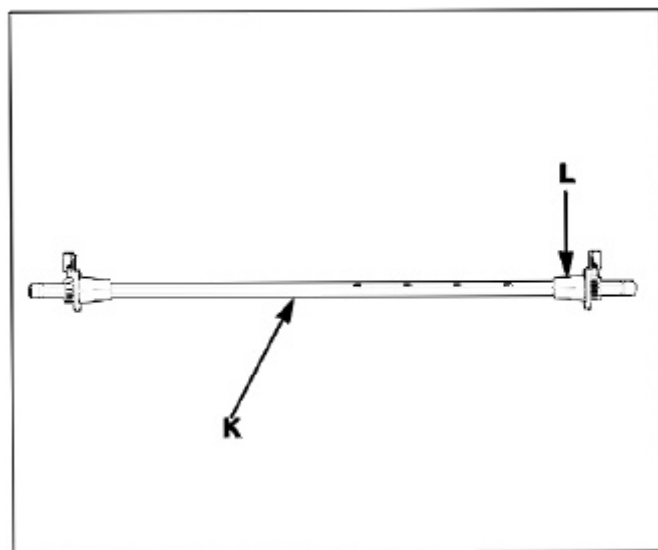

Fig. 5
K. FILM SHAFT & CORE ADAPTERS: The film shaft holds the film supply and the core adapters hold the rolls of film on the shaft, (Figure 5).